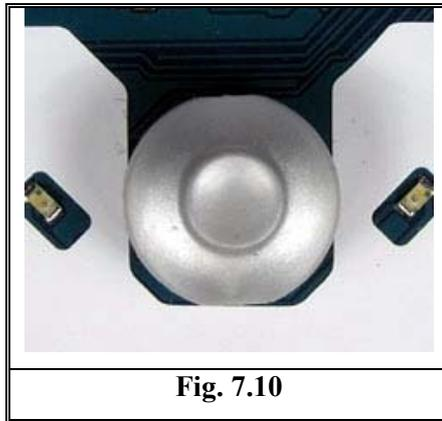

Fig. 7.10
- Check if the joystick (Fig. 7.10) is mechanical damaged or dirty. Replace it if necessary.